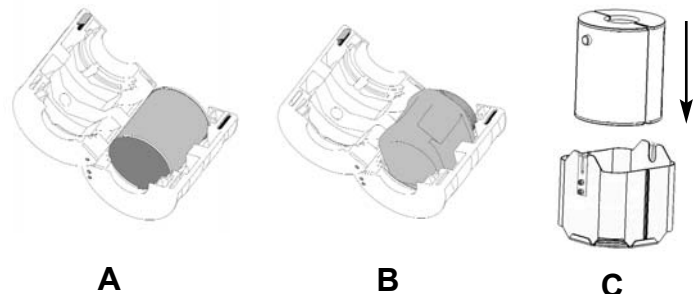

Fig. 3: Using the 9-7842-03 Can Adapter
- Quart Cans.** Place the can inside the special adapter (Fig. 3). Set round quart cans horizontal, with lid up (A); set square quart cans vertically, lid up (B). Insert the adapter into the can holder. Make sure the adapter lugs are lined up with the bail retainers (C) and adapter is all the way to the bottom of the canholder.